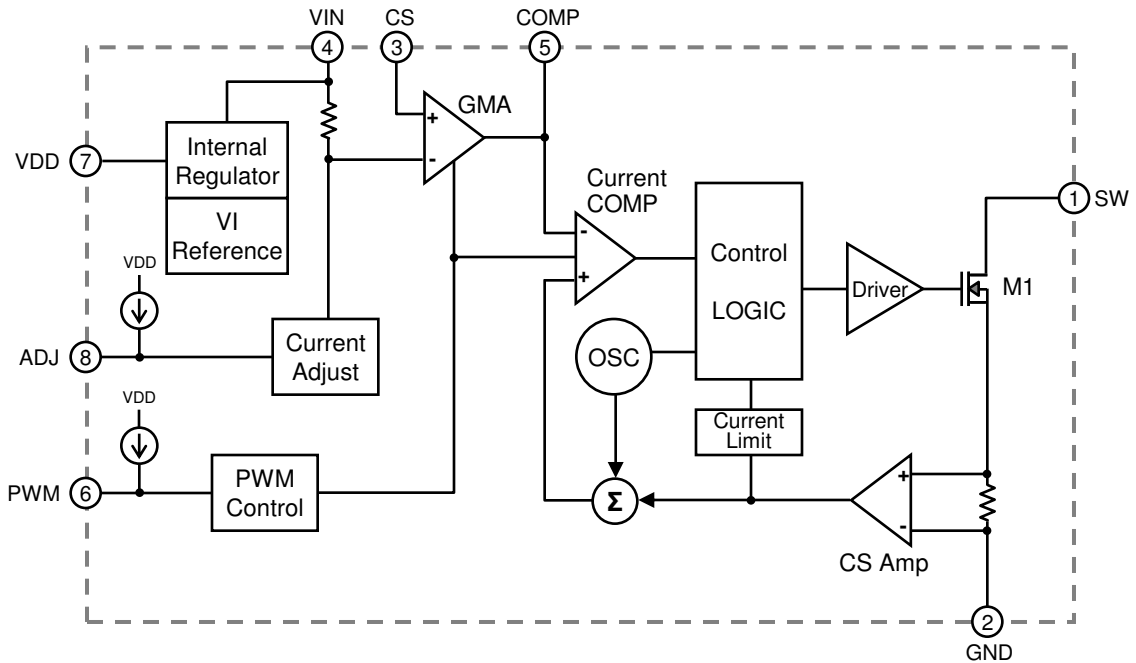

Figure 2. Functional Block Diagram
**OVERVIEW** (refer to Figure 2. Functional Block Diagram)